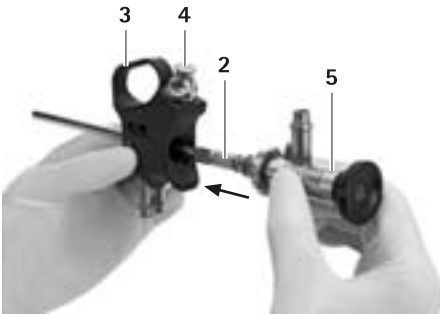

Fig. 4
- Slide MINOP TREND suction/irrigation sheath 2 with MINOP TREND endoscope 5 into the rear of the handle until MINOP TREND suction/irrigation sheath 2 engages, see Fig. 4. MINOP TREND suction/irrigation sheath 2 is rotatable.